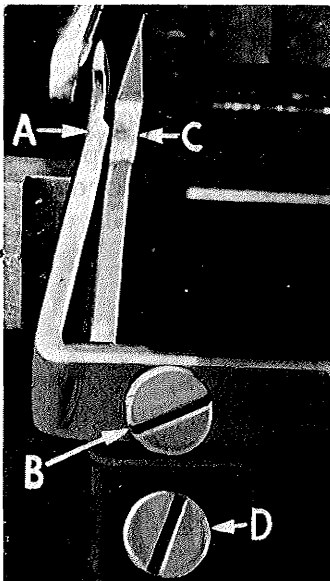

Fig. 6
Set rear needle guard (A, Fig. 6) as high as possible, without interfering with either lower looper or movement of lower knife holder, but still in position to deflect needles forward $.002$ -. $.004$ inch ($.051$ -. $.102$ mm). Screw (B) is used to set rear needle guard. Make sure there is no interference between rear needle guard and lower looper.
Assemble front needle guard (C, Fig. 6). When lower looper is springing needles off rear needle guard, set front needle guard as close as possible to needles without touching. Screw (D) is used to adjust and set front needle guard. After this setting, make sure there is no interference between needle guards and differential feed dog.